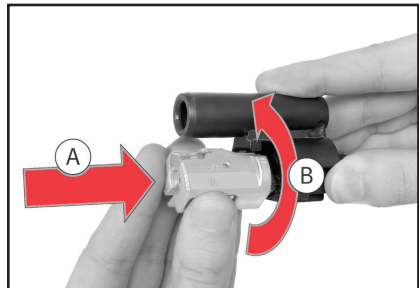

Fig. 41 – Insert bolt head
5. Place bolt head with extractor upwards (Fig. 41-A) onto locking piece.
6. Turn bolt head counter-clockwise a quarter turn (Fig. 41-B) until the connecting piece audibly and tangibly snaps into place.